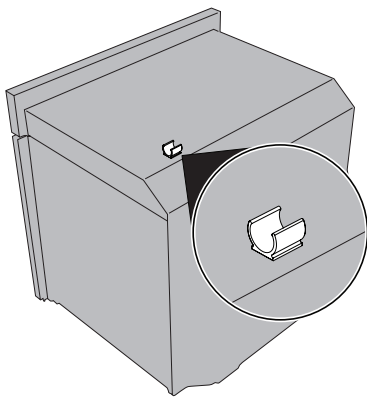

Figure 7
3. If present, remove the conduit cable bracket from the top rear of the oven (Figure 7)